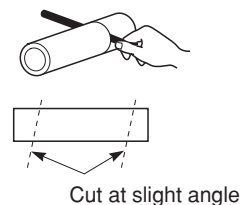

Fig. 3-48
- (5) Measure the thickness of the wall from the inside edge to the outside edge and cut the PVC pipe at a slight angle 6 mm shorter than the thickness of the wall. (Fig. 3-48)